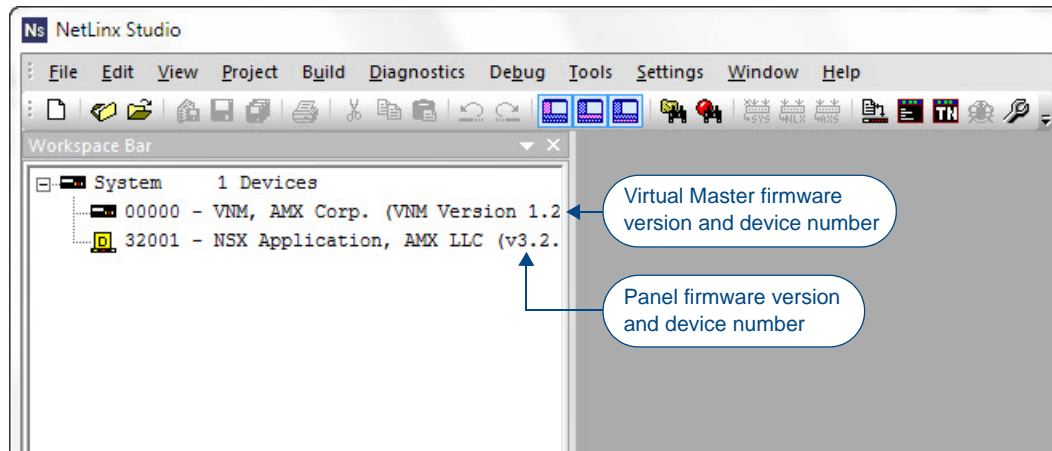

FIG. 30 NetLink Workspace window (showing panel connection via a Virtual NetLink Master)
1. After the *Communication Verification* dialog window verifies active communication between the Virtual Master and the panel, click the **Online Tree** tab in the Workspace window (FIG. 30) to view the devices on the Virtual System. *The default System value is 1.*
2. Right-click on the System entry (FIG. 30) and select **Refresh System** to re-populate the list. Verify the panel appears in the **Online Tree** tab of the Workspace window.